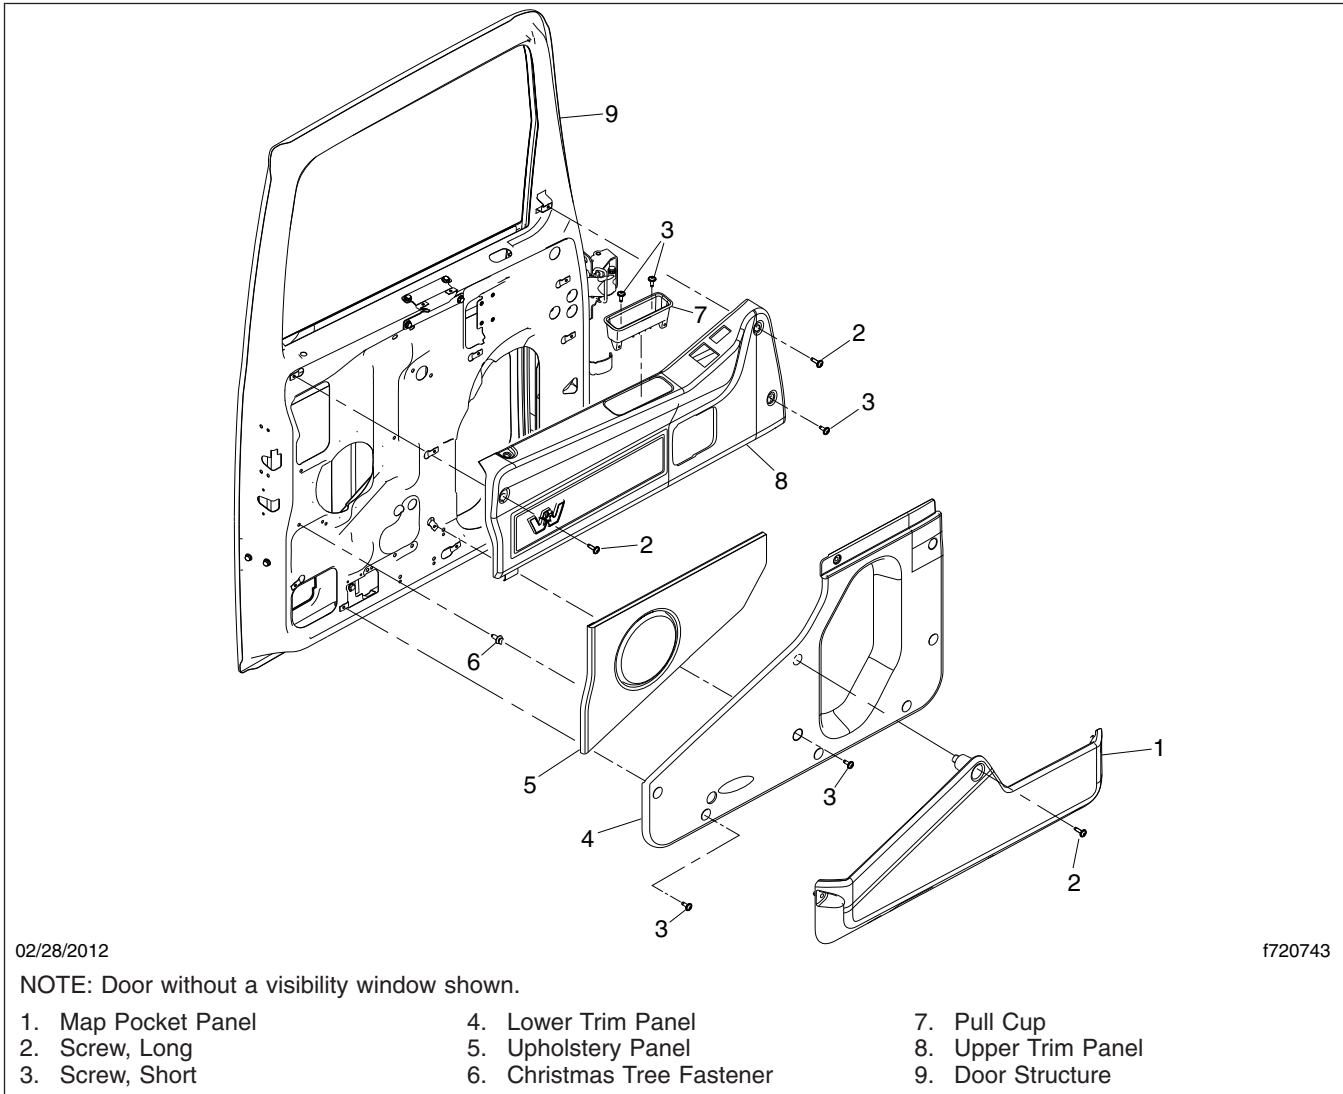

Fig. 1, Door Trim Panels, Vehicles Built From November 7, 2011—
- 6.1 Remove the two screws from the bottom of the pull cup. See Fig. 1.